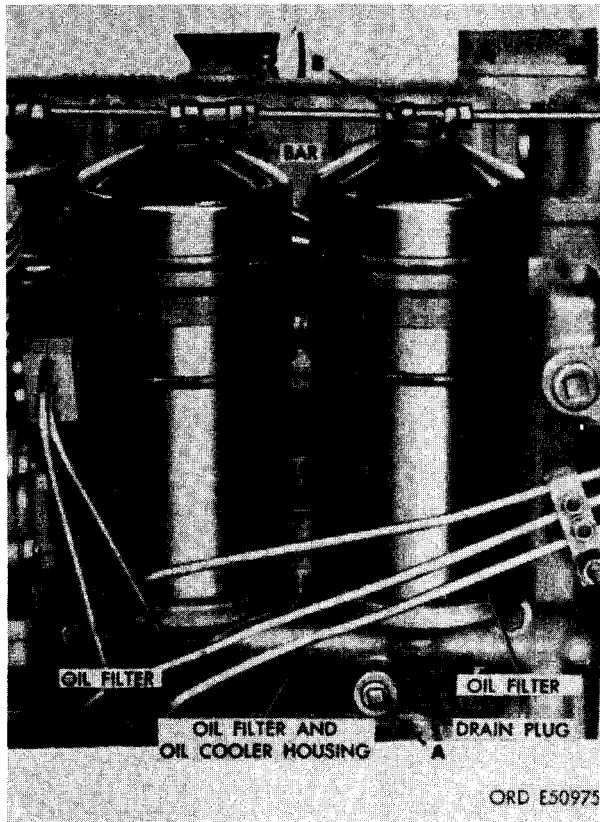

FIGURE 105. OIL FILTERS - INSTALLED VIEW.
- (1) Figure 105. (A) Remove 3/8-inch pipe plug from oil filter and oil cooler housing and allow oil to drain into a suitable container. (B) Unscrew bar securing rear oil filter case to oil filter and oil
b. Installation. Refer to figures 105 and 106 and reverse the sequence of illustrations and instructions to install the primary and secondary oil filter elements.